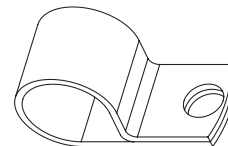

FIGURE 5-51
- When installing flexible conduit, conduit should be secured at intervals not to exceed 5 ft (1.5 m) and before and after each bend. Flexible conduit **CANNOT** slide in the clamp(s) used for mounting. Make certain mounting clamp(s) do not pinch the conduit. The following style clamp ('P' clip) (Part No. 436150) is a suitable type for use on flexible conduit. See Figure 5-51.